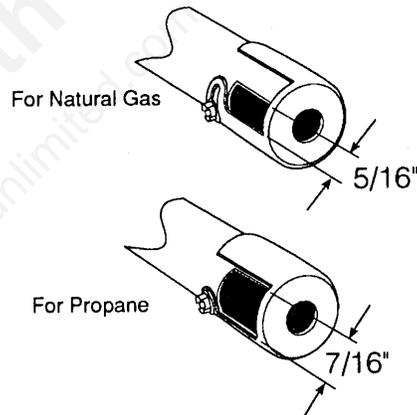

Figure 42. Air Shutter Settings.
Step 3. Loosen the shutter locking screw enough to adjust the setting as needed and re-tighten. Fig. 42.